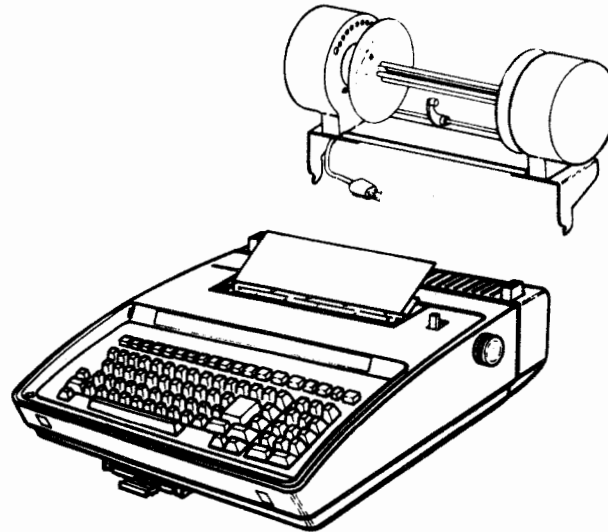

Fig. 9
4.16 Insert the paper winder into the inside slots of the left and right retaining mounts. If the teleprinter is equipped with the 430310 copyholder, the copyholder fits into the outside slots of the left and right retaining mounts. See Fig. 9.